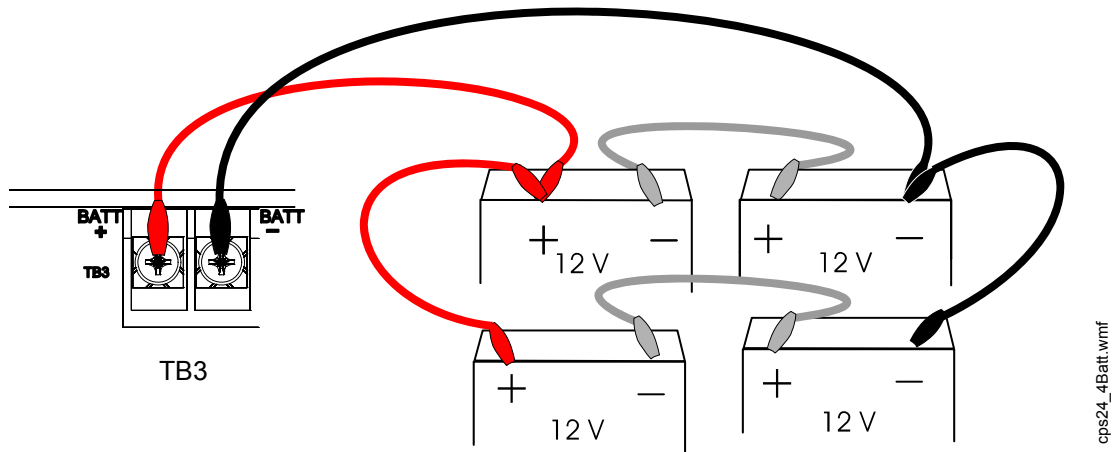

Figure 2.20 Connecting Four Batteries to the Power Supply
4. **Only after initial system power-up**, connect the two pairs of batteries. Use two battery interconnect cables to tie each unoccupied negative (–) terminal to an unoccupied positive (+) terminal, as shown in Figure 2.20.